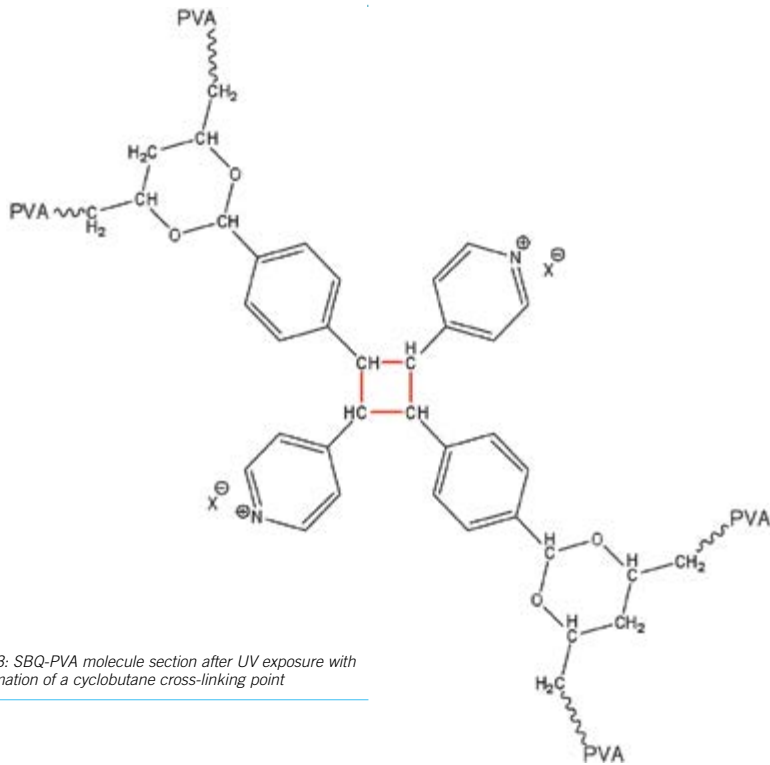

Figure 3: SBQ-PVA molecule section after UV exposure with the formation of a cyclobutane cross-linking point
When the UV spectrum of SBQ-PVA is, however, more closely studied, you detect an asymmetry in the higher-wave, downward spectrum (see Figure 2), which in recent studies and curve separation has been attributed to a sidelobe at about 372nm (8). This sidelobe is based on a pre-orientation of the SBQ groups in SBQ-PVA and to some extent explains the high reactivity, for to trigger the crosslinking reaction two SBQ groups (see Figure 3) must always join up, which at pre-orientation is already the case.
While SBQ emulsions can be easily formulated for high resistance to solvents, UV and plastisol inks, there are limitations when using water-based print media. In particular, long print runs with aqueous media are problematic. This limitation is based on the bi-functionality of the SBQ cross-linking reaction (see Figure 3), which limits the density of the attainable degree of crosslinking. On top of that, the number of SBQ groups which can be incorporated into the PVA is limited, since exceeding even relatively low concentrations of SBQ groups, the SBQ-PVA becomes insoluble. If optional longer runs with aqueous media have to be printed, then this can be done by adding higher functional diazo compounds.